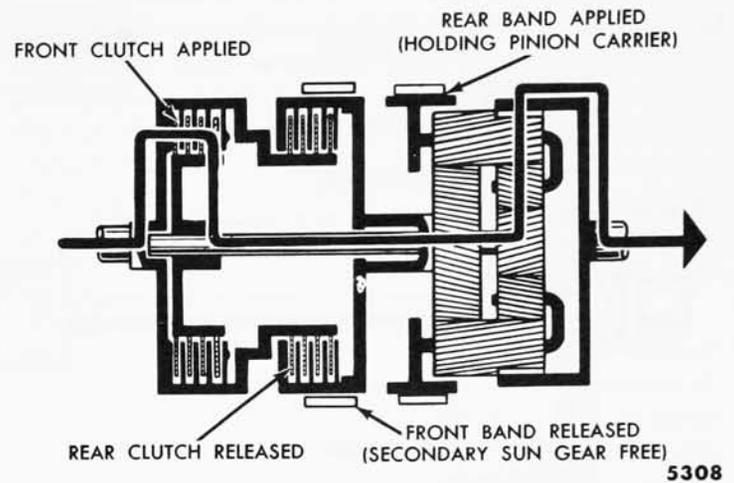

Fig. 12—Power Flow—Low Range
(4) **LOW RANGE.** In low range, the primary sun gear is driven and the pinion carrier is held (fig. 12). Power is